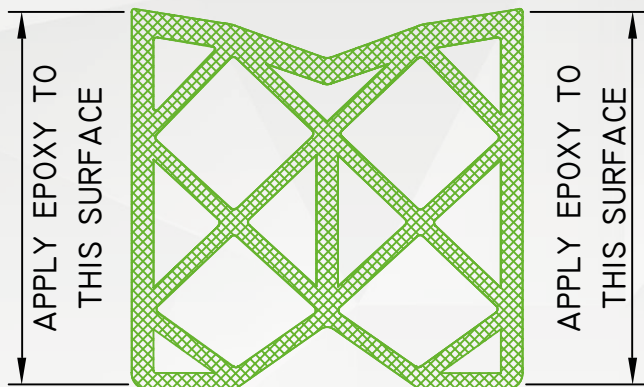

Figure 4.
8. Apply the epoxy by spreading the epoxy with a trowel until it is approximately 3 - 4 mm thick (see Figure 4 and 5). The epoxy must be applied quickly to allow time for the seal to be installed before it begins to gel. Once the epoxy has begun to gel or get hot, a proper bond will not be achieved.